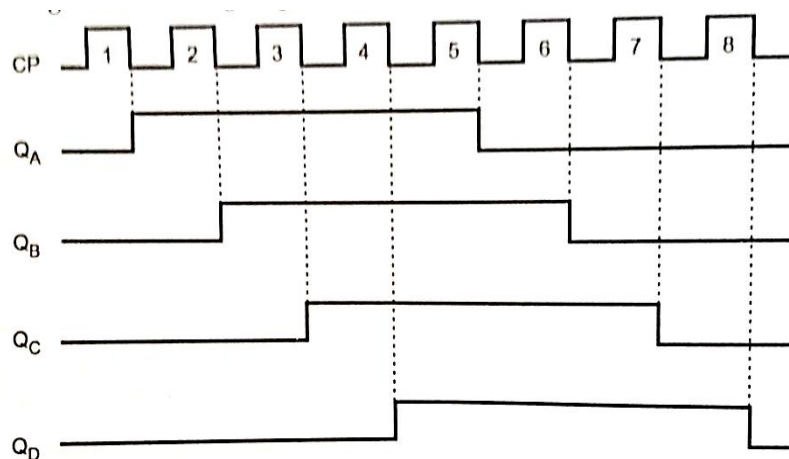

Figure 3.41: timing sequence for a four-bit Johnson counter
- Figure 3.41 gives the timing sequence for a four-bit Johnson counter.